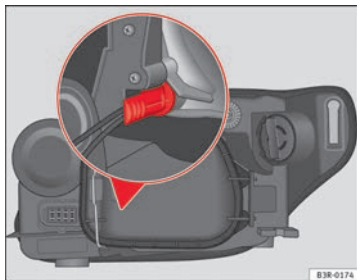

Fig. 216 Side lights. Bulb holder grip in vertical position
- Insert the bulb into the socket so that the side of the bulb holder grip is vertical ⇒ Fig. 216 and press on it.